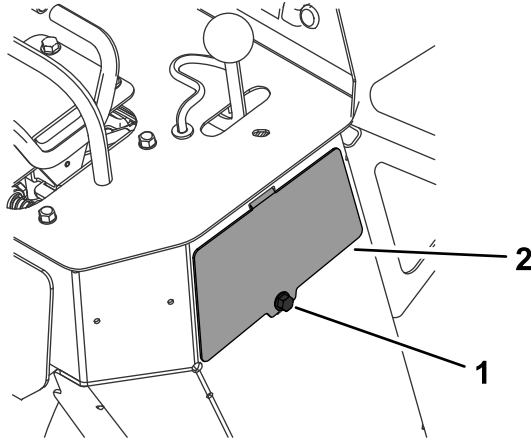

Figure 52
3. Remove the bolt and access panel on the right side of the machine (Figure 52).
5. Install the access panel and secure it with the bolt (Figure 52).